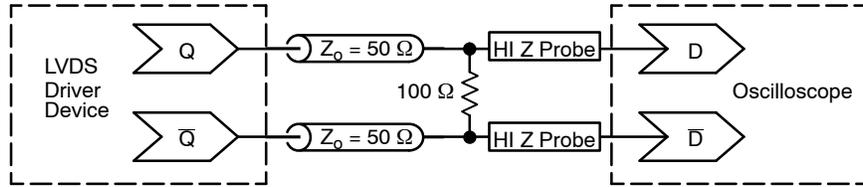

Figure 17. Typical LVDS Termination for Output Driver and Device Evaluation
5. LVDS outputs require 100 Ω receiver termination resistor between differential pair. See Figure 17.
12. Measured by forcing $V_{INPPmin}$ with 50% duty cycle clock source and $V_{CC} - 1400\text{ mV}$ offset. All loading with an external $R_L = 100\ \Omega$. Input edge rates 150 ps (20%–80%). See Figure 17.